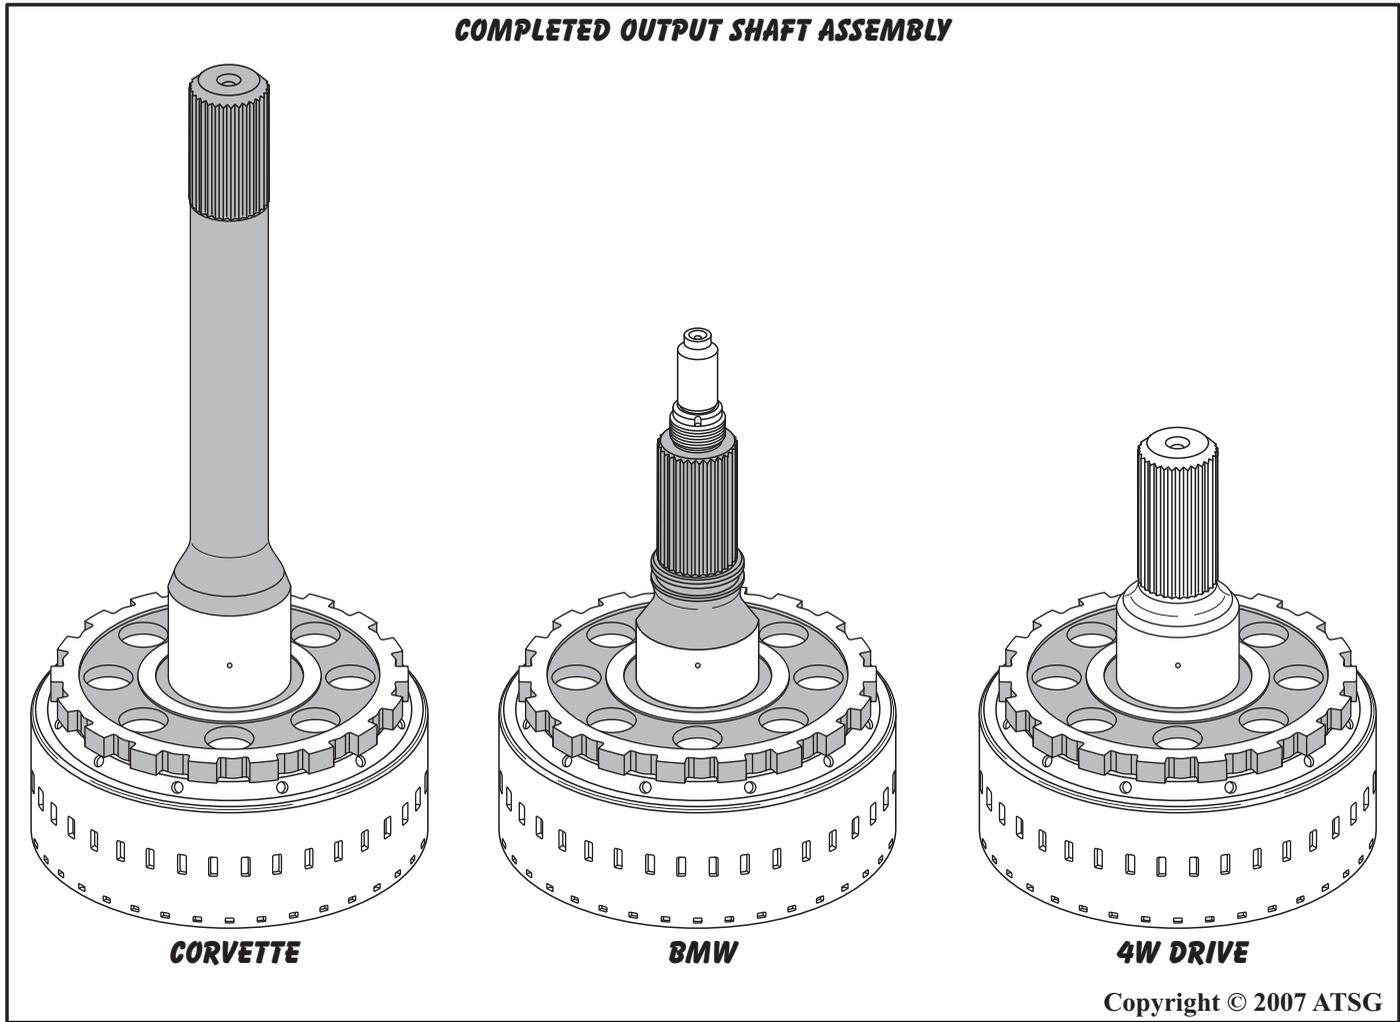

Figure 123
4. There are currently three different versions of the output shaft depending on model and all 3 are illustrated and identified in Figure 123.